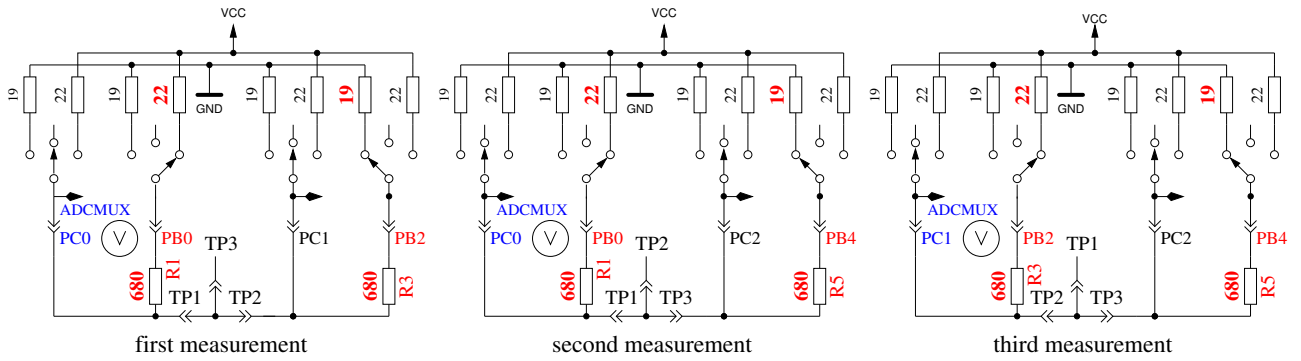

Figure 5.52: Comparison of 680Ω resistors
2. **Comparing of the 680Ω resistors.** In row 1 the cryptic text “+RL- 12 13 23” is shown. Meaning of this is as follows: The RL is the short form of Resistor Low meaning the 680Ω resistors. The 12 stand for: resistor at pin 1 is connected to VCC (+) and resistor at pin 2 is connected to GND (-). The result of this measurement is displayed in row 2 at the first place as difference to the theoretical value. In row 1 follows now a “13” which means, that the first connection of measurement 1 is still connected with 680Ω to VCC but that the resistor of pin 3 is connected to GND. The result is displayed in the middle place of row 2 as difference to the theoretical value. The last measurement of this test “23.” means that now the resistor at pin 2 is connected to VCC (+) and the resistor of pin 3 is connected to GND. The result of measurement is displayed at the last place of LCR row 2 as difference to the theoretical value. Please remember, that the resolution of the ADC is about 4.88mV! The measurement situation is also shown in figure 5.52. The theoretical value with respect to the internal resistance of the pins should be: